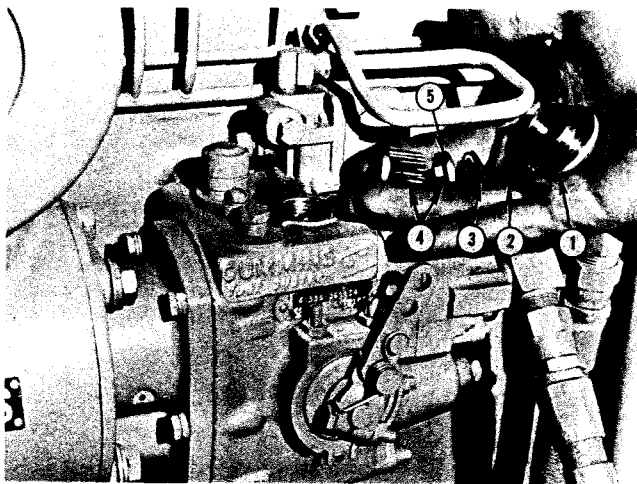

Fig. 2-33, (N11950). Fuel pump screen - PT fuel pump
1. Loosen and remove cap (1, Fig. 2-33) and "O" ring (2), spring (3). Lift out filter screen assembly (4).